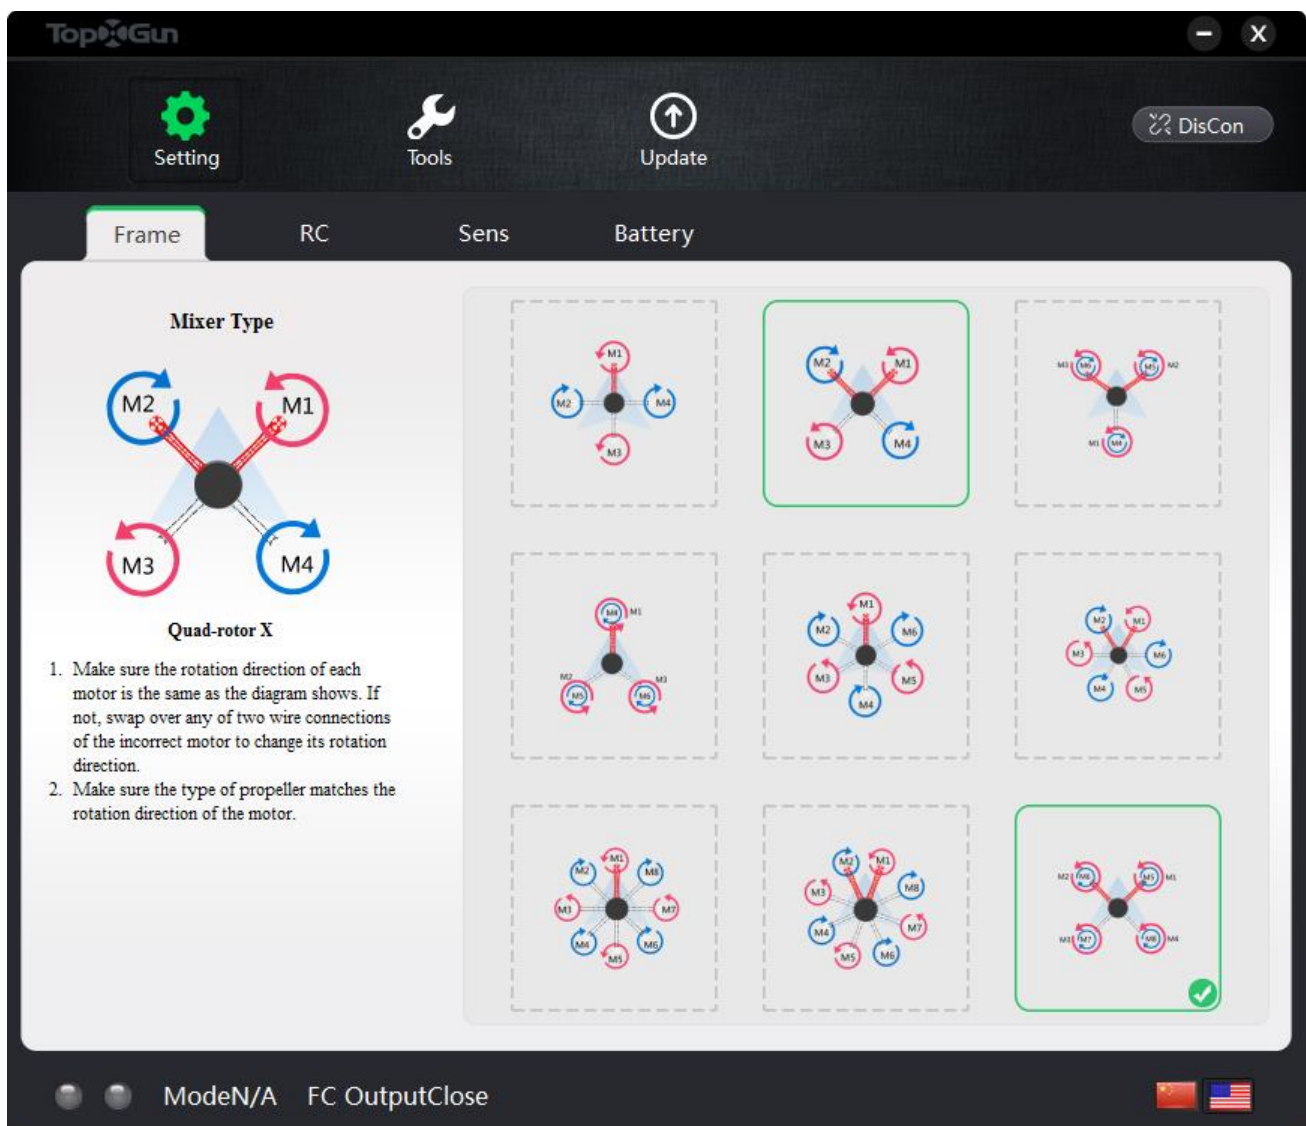

Figure 1-4 Set the type of aircraft
Step2. Choose the type of aircraft, as shown in Figure 1-4.